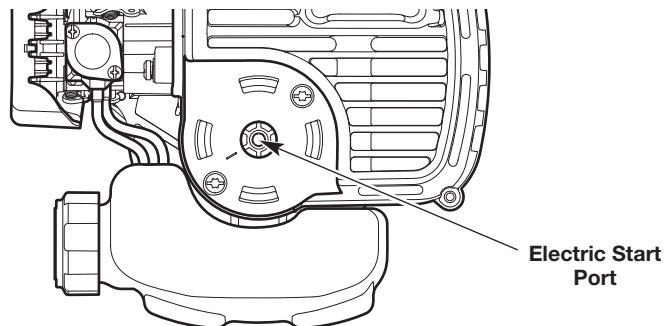

Fig. 10
6. **DO NOT** squeeze the throttle control. Insert the electric start accessory into the electric start port (Fig. 10). Refer to the *Operation* section of the electric start accessory operator's manual.